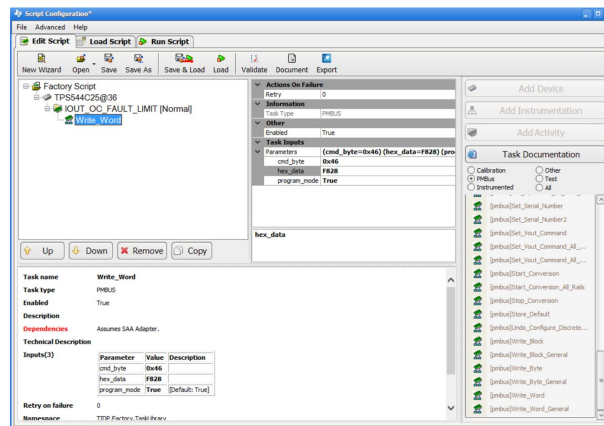

Figure 32. Adding A Task to Modify The Value of IOUT\_OC\_FAULT\_LIMIT
- To add a task to modify the value of IOUT\_OC\_FAULT\_LIMIT, click Write Word and write cmd\_byte=0x46, hex\_data=0xF828 (shown in Figure 32).